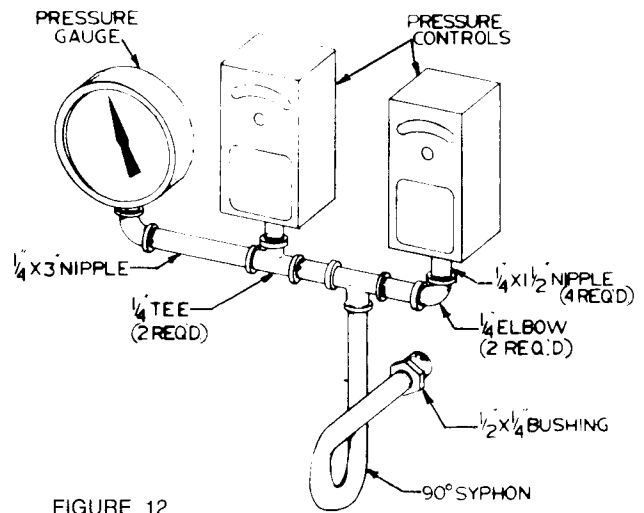

FIGURE 12
4. Install the steam pressure operating and high limit controls and the pressure gauge in the proper tapping as indicated in the CONTROL TAPPING table and FIGURE 5. Use the pigtail syphon and fittings furnished (see FIGURE 12).